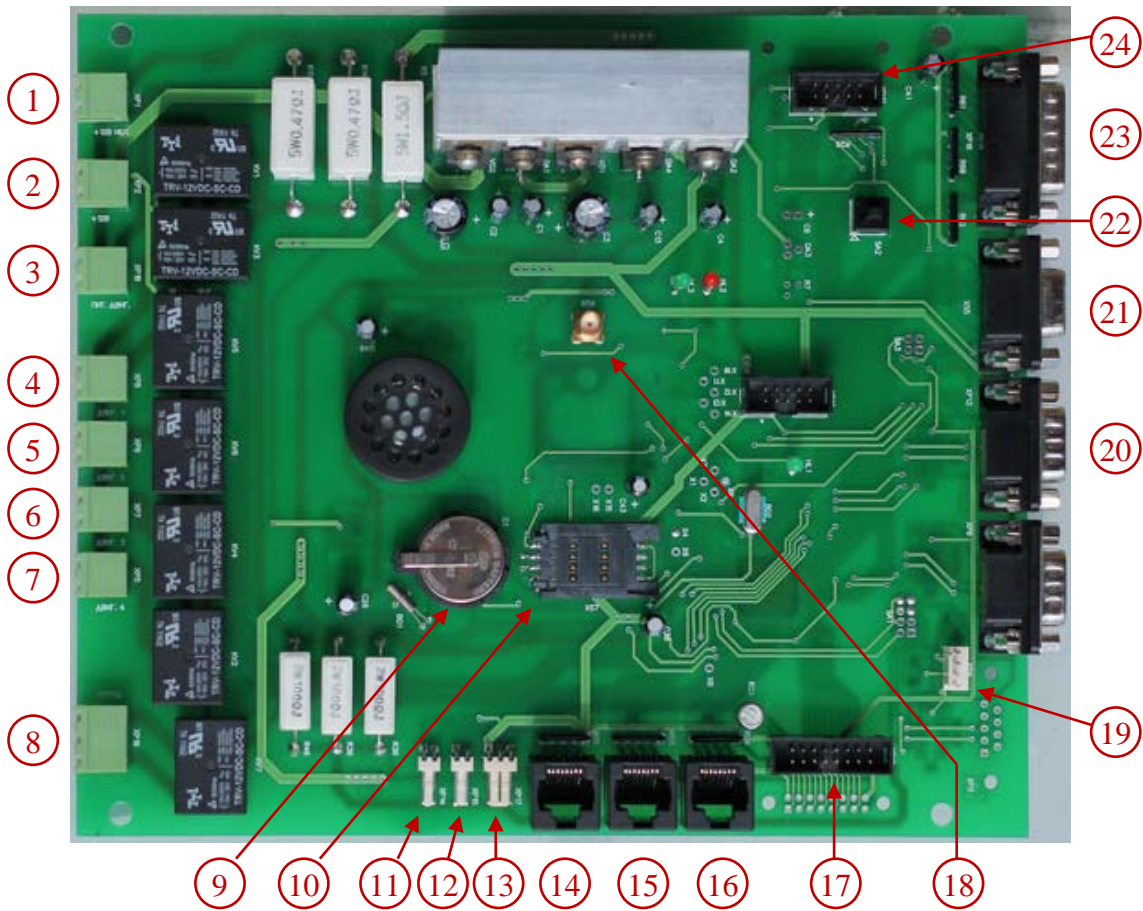

Fig.3 Machine control card
Figure 3 shows the control card with the connector designation and other main elements.
Units connected to the card and main elements indicated on the Figure 3:
You must install a SIM card in the card holder located on the control board (see figure 3, POS. 10) for statistics operation module. Along with it, PIN code must be disabled.
Enter the service for operating parameters configuration. Press and hold service button for 3 seconds on the card to enter the service menu. (Fig.3, pos.23) or on the button located behind the door of the cash acceptor.